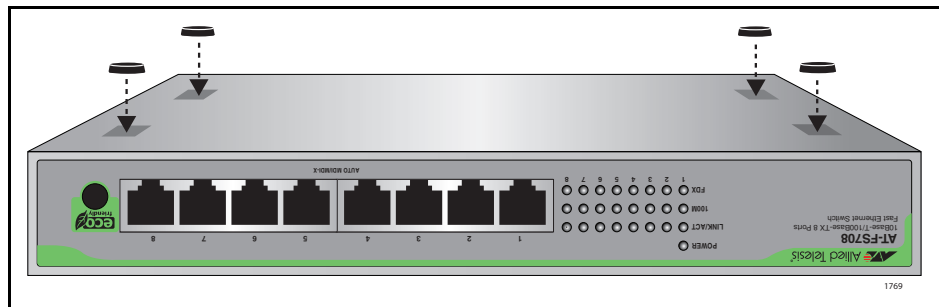

Figure 3. Attaching the Rubber Feet
2. Attach the four self-adhesive rubber feet to the bottom of the switch, as shown in Figure 3.